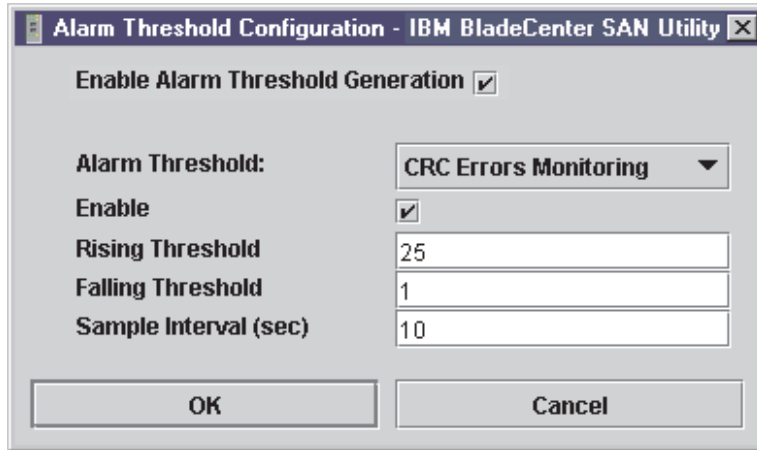

Figure 15. Alarm Threshold Configuration window
2. The Alarm Threshold Configuration window shown in Figure 15, prompts you to select an event, set thresholds, set a sampling interval, and enable or disable the alarm.